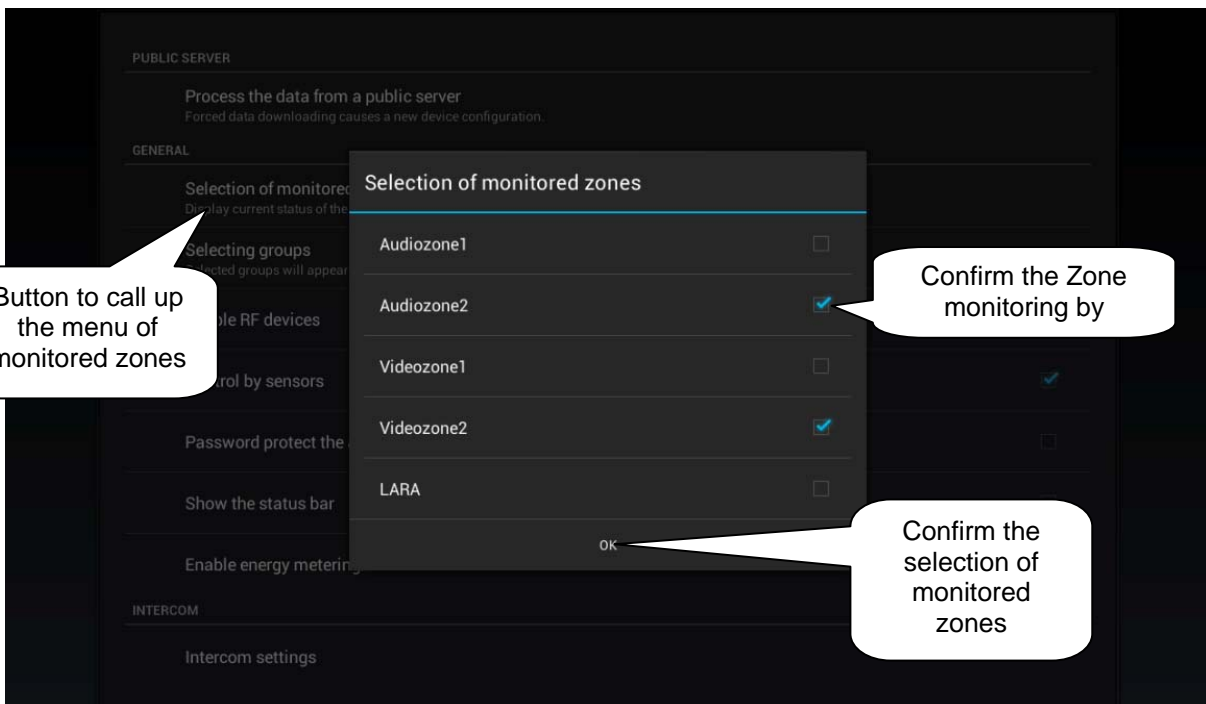

Figure 6 Monitored zones
- b) If you want to monitor connected Audio zones and Video zones in the application, you need to select these zones in the menu “Monitored zones” (Figure 6).